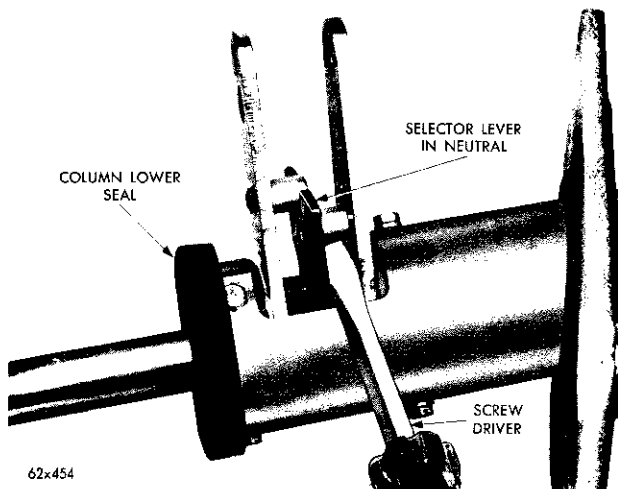

Fig. 12—Holding Selector Lever in Neutral
(14) Place a screw driver blade between the 2nd and 3rd speed shift lever and the selector lever, so it will hold the selector lever at neutral position half way between the two shift levers (Fig. 12).
(10) Recheck the lower end of the column jacket and shift tube assembly, to assure that they have remained concentric with the steering shaft after tightening the attaching screws.
(11) Slide the steering column lower seal up to the bottom end of the column jacket, and force the outer lip of the seal into position around the flanged lower end of the column jacket and shift tube assembly (Fig. 12).
(12) With the master splines in the steering wheel hub and steering shaft aligned, place the steering wheel on the steering shaft.
(13) Install the steering wheel retaining washer and nut. Tighten the steering wheel nut to 24 foot pounds torque.
(14) Install any horn switch parts previously removed from the steering wheel, and install the horn button or horn ring.